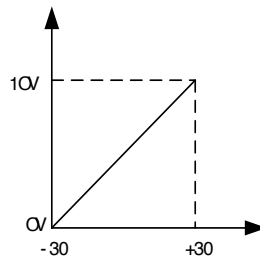

Figure 5-8 Corresponding relation of synergy voltage deviation (Fanuc)
2. Corresponding relation of synergy voltage deviation is shown in Figure 5-8.